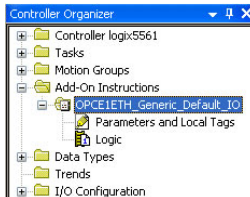

Figure 90: Generic Default I/O AOI
- 2) Right click on "Add-On Instructions" in the controller organizer view and select "Import.Add-On Instruction". Browse and import the generic default I/O AOI. Refer to Figure 90.